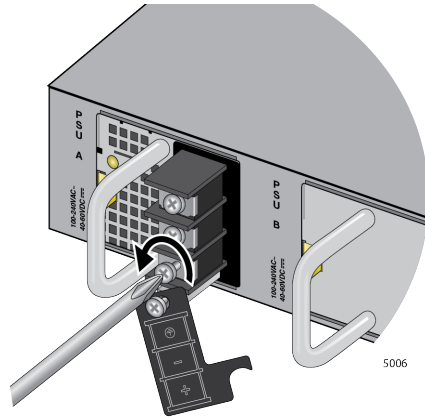

Figure 62. Loosening the Ground Screw
4. Loosen the ground screw with a Phillips-head screwdriver. Refer to Figure 62.